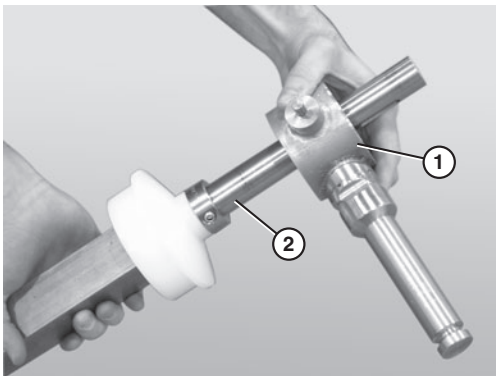

Figure 85
- Slide the second bearing shaft assembly, or the motor mount bracket (Figure 85, item 1), onto the longer end of the drive spindle (Figure 85, item 2).